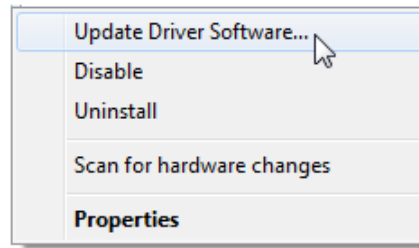

图 25. Update Driver Software Option
2. From the resulting contextual menu, select *Update Driver Software* (see 图 25).